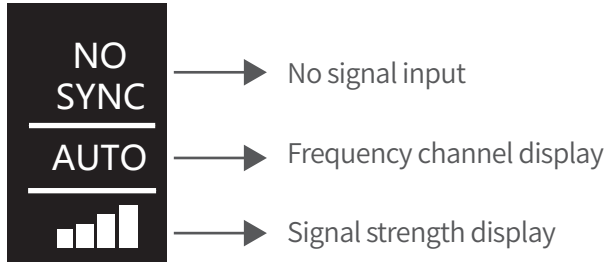
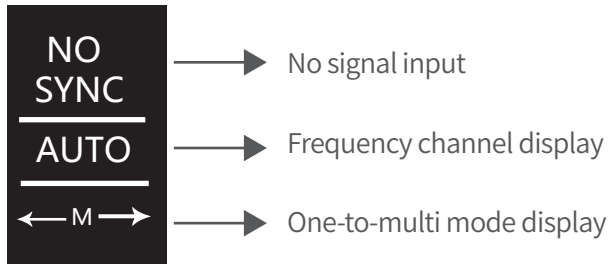

Fig. 1
Fig. 3
When no signal input, the transmitter is consistent with the receiver display content. See Fig. 1
When the transmitter has no signal input, see Fig. 3
- (1) Connecting SDI IN/HDMI IN interface of FLOW2000 transmitter with SDI OUT/HDMI OUT interface of camera or video output device. Connecting SDI loop out interface of FLOW2000 transmitter with SDI IN interface of monitor or switcher.
- (2) Connecting SDI OUT interface of FLOW2000 receiver with SDI IN interface of monitor or switcher. When using one-to-multi mode, every SDI OUT interface of receiver should be connected with SDI IN interface of monitor or switcher.
- (3) Switch on both FLOW2000 transmitter and receiver, “Power” indicator light up, OLED screen show “WAIT...” then jump to initial interface, see fig.1 or fig.3; Wait until “Link” and “Video” indicator light up, the transmitter and receiver have identifiable signal inputs and connected successfully. If the transmitter and receiver have identifiable signal inputs but fail to establish a connection, the "link" indicator will flash.
- (1) Connecting SDI IN/HDMI IN interface of FLOW2000 with SDI OUT/HDMI OUT interface of camera or video output device. Connecting SDI loop out interface of FLOW2000 transmitter with SDI IN interface of monitor or switcher.
- (2) When using one-to-multi mode, every SDI OUT interface of receiver should be connected with SDI IN interface of monitor or switcher.
- (3) Switch on both FLOW2000 transmitter and receiver, every receiver should be switch on when using one-to-multi mode. “Power” indicator light up, OLED screen show “WAIT...” then jump to initial interface, see fig.1 or fig.3; Wait until “Link” and “Video” indicator light up, the transmitter and receiver have identifiable signal inputs and connected successfully, right push the joystick to “PREF” interface, see fig.11.
- (4) It is recommended to choose high quality mode for wireless devices under normal operating conditions, such as better environment, stronger signal, or more than one set of wireless devices under the same scene.
- (5) Wall through mode is recommended for wireless devices under complex operating conditions, such as poor on-site environments, high distance barriers and only 1-2 sets of wireless devices in the same scene.